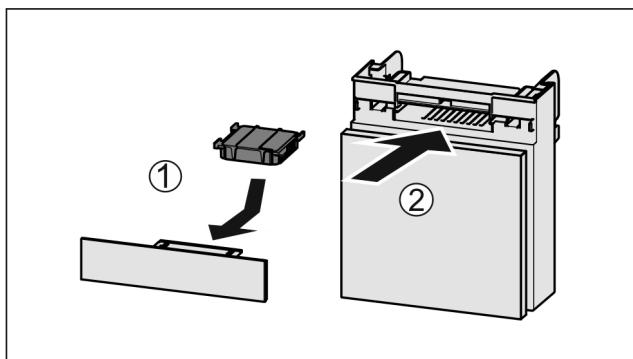

Fig. 146
- ▶ Insert the carbon filter as shown in the diagram Fig. 146 (1).
- ▶ Push the compartment in Fig. 146 (2).